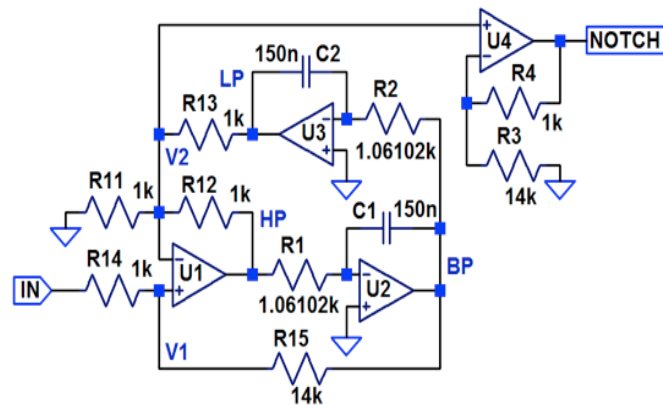

**Figure 1.** Typical state-variable filter
Figure 1 shows the block diagram of the design. The temperature sensor is based on a
**Figure 1.** A wireless temperature sensor is formed by connecting a wireless radio module to an ADC, reference and thermistor. The circuit is powered by an energy harvester that can take power from a battery or solar panel.
The usual schematic of a state-variable filter with two inverting integrators is well known. Curiously, the input signal is almost always connected to the minus input of U1. Figure 1 is an example with  $\omega_0 = 1\text{ kHz}$  and  $Q = 5$ .